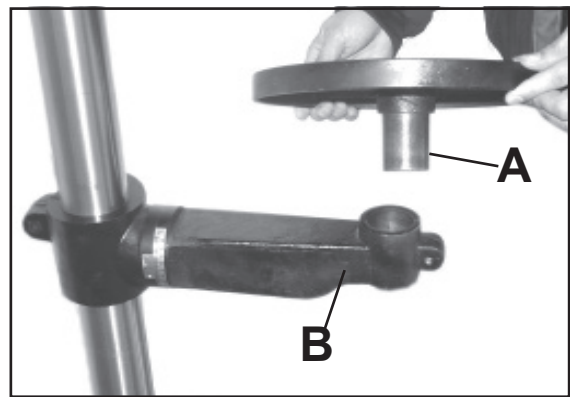

Figure 17
2. Insert the table post (A-Fig.17) into the table support bracket (B-Fig.17) as shown.